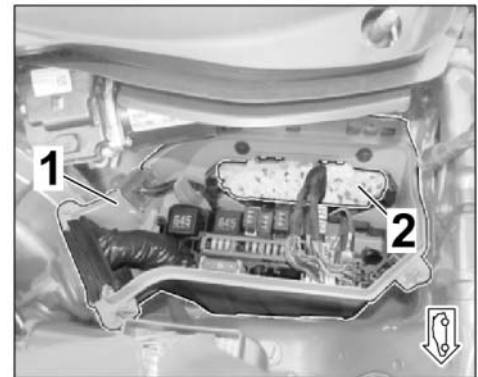

Figure 47
- 4.4.2 Installing fuse box cover (E-box) on cowl panel (⇒ *Figure 47*).